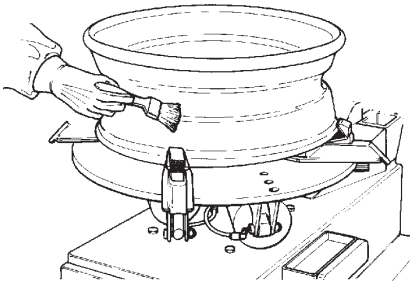

Fig. 4.2-1
- A. Clean entire rim surface (Fig. 4.2-1).